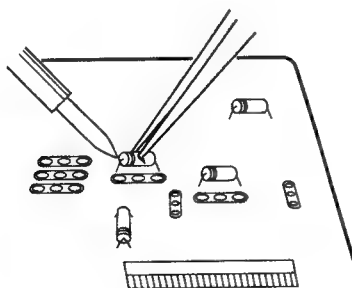

Fig. 9
1. Hold a Chip part to be removed with tweezers and apply heat to the solder at one end of the part with a soldering iron. (Fig. 9)